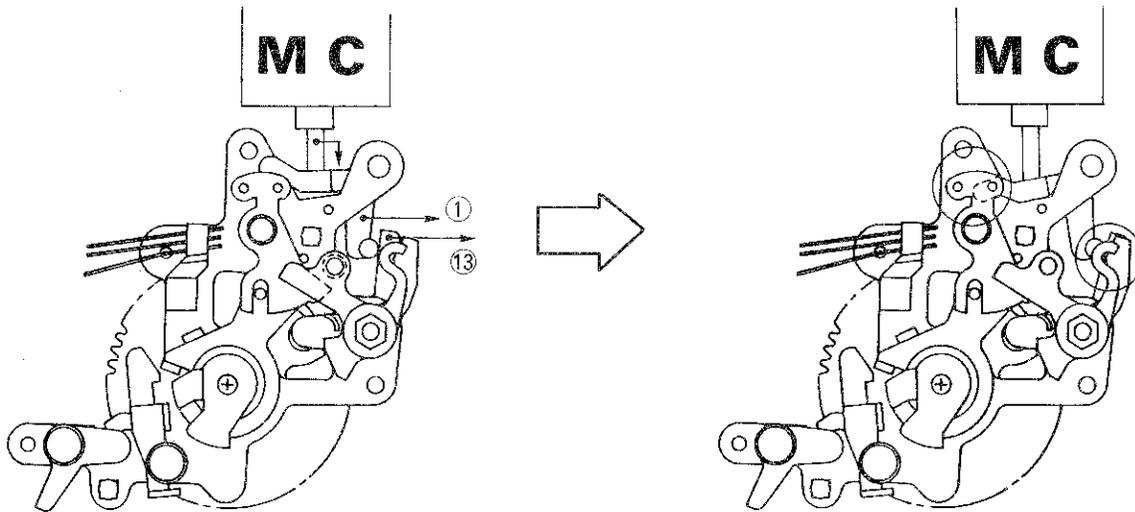

Fig. 20
3. When 1st curtain runs, MC, receiving a release signal, is actuated again, and when lever ① (Fig. 20) is pushed, 2nd curtain stop claw ⑬ is disengaged directly, and 2nd curtain runs, while 2nd curtain shutter charge gear is rotating.